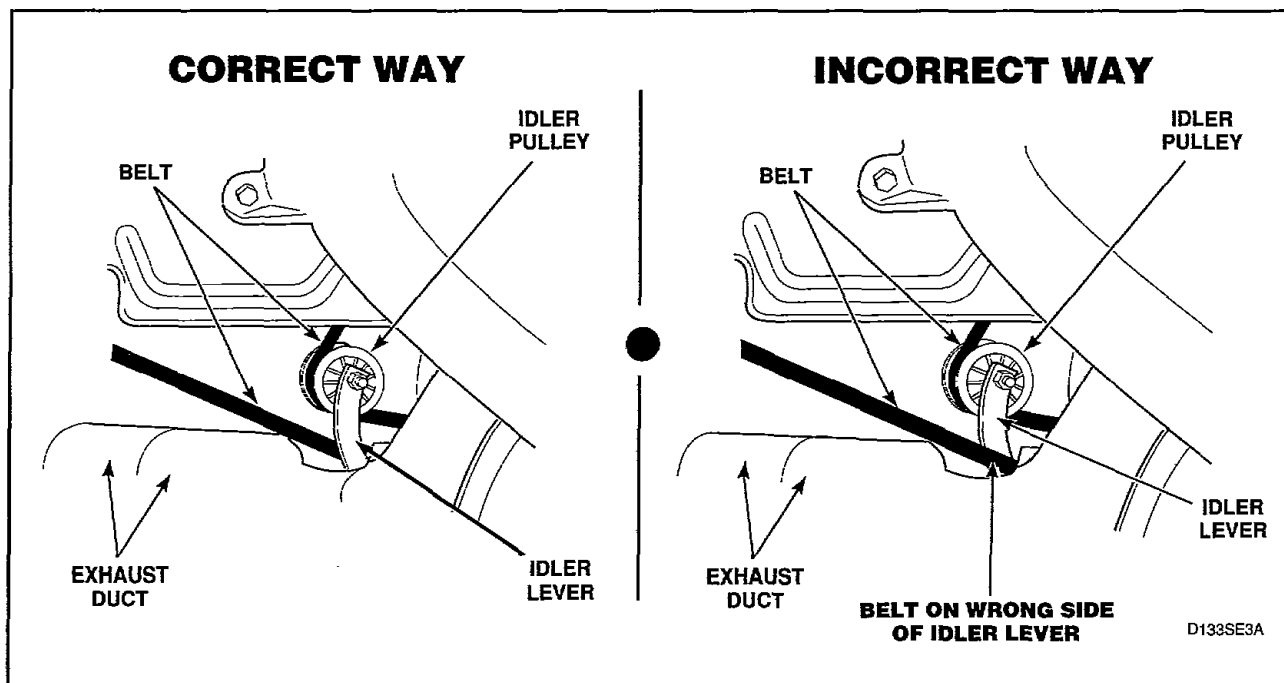
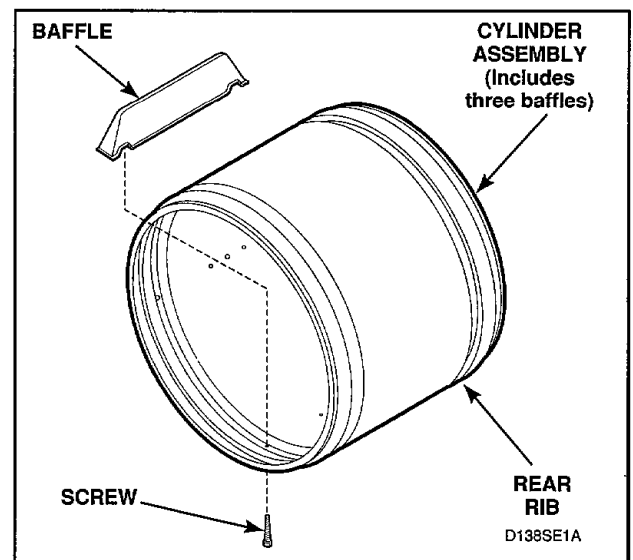

Figure 36
Figure 43
- f. Remove cylinder belt from idler and motor pulleys, *Figure 36*.
NOTE: When installing belt, make sure belt is properly installed on motor and idler pulleys, and is on the correct side of the idler lever, *Figure 36*. Belt must be positioned around cylinder approximately three inches ahead of the rear rib on cylinder, *Figure 43*, with the ribbed surface of the belt against the cylinder. After installing belt, manually rotate cylinder **counterclockwise** to check that belt is properly aligned.
- Disengage belt from motor and idler pulleys, *Figure 36*.
NOTE: When installing belt, make sure belt is properly installed on motor and idler pulleys, and is on the correct side of the idler lever, *Figure 36*. Belt must be positioned around cylinder approximately three inches ahead of the rear rib on cylinder, *Figure 43* with the ribbed surface of the belt against the cylinder. After installing belt, manually rotate cylinder **counterclockwise** to check that belt is properly aligned.
NOTE: When installing belt, make sure belt is properly installed on motor and idler pulleys, and is on the correct side of the idler lever, *Figure 36*. Belt must be positioned around cylinder approximately three inches ahead of the rear rib on cylinder, *Figure 43*, with the ribbed surface of the belt against cylinder. After installing belt, manually rotate cylinder **counterclockwise** to check that belt is properly aligned.
Remove screws holding baffles to cylinder, *Figure 43*.
NOTE: When installing belt, make sure belt is properly installed on motor and idler pulleys, and is on the correct side of the idler lever, *Figure 36*. Belt must be positioned around cylinder approximately three inches ahead of rear rib on cylinder, *Figure 43*, with the ribbed surface of the belt against cylinder. After installing belt, manually rotate cylinder **counterclockwise** to check that belt is properly aligned.